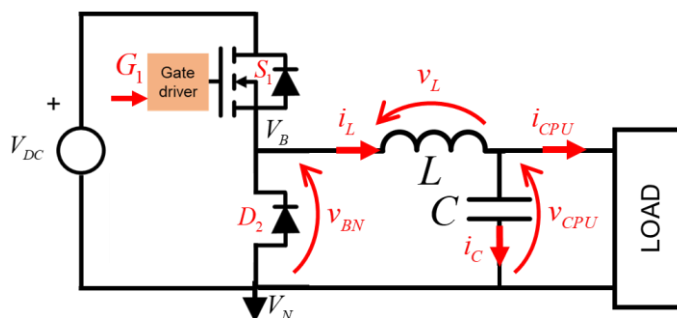

Figure 2
- 1.6 Consider the unidirectional version of the converter as shown in Fig.2 and simulate the wave forms of current, voltage and power for